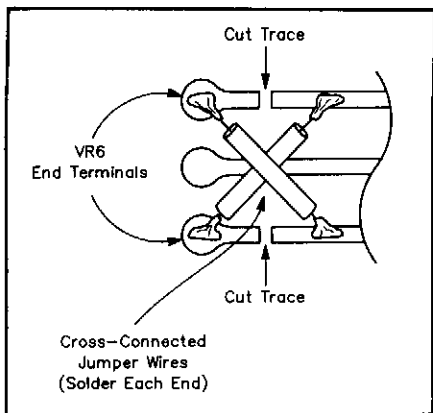

Fig 31—Reversing the TS-440S's IF-shift tuning sense involves two PC-board-trace cuts and two jumper wires. See text.
6. Cross-reconnect the control-end terminals with jumper wires as shown in Fig 31.